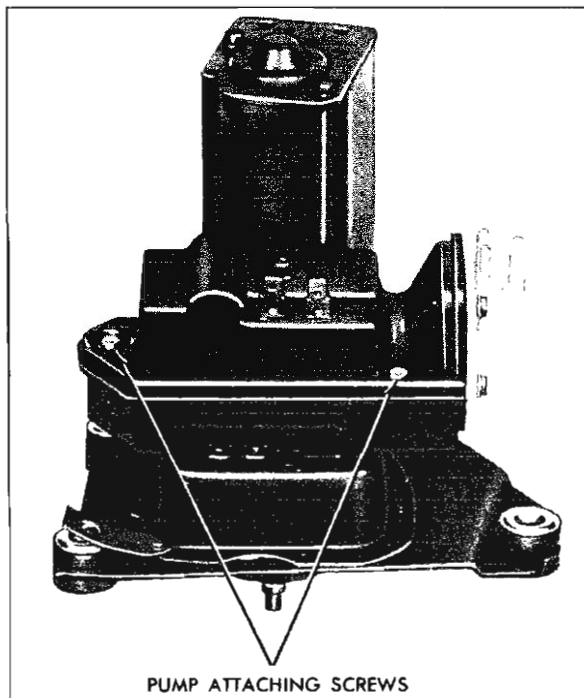

Fig. 63—Washer Pump Mounting Screws
1. For wipers equipped with a washer pump, remove the two washer pump mounting screws (fig. 63) and lift pump off washer.
2. Remove the two pump-to-wiper retaining screws, remove washer from wiper (fig. 63).